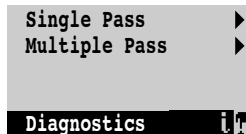

FIGURE 5-8 Video Diagnostics single pass or multiple pass
5. Select **Single Pass** or **Multiple Pass** at the screen shown in Figure 5-8.